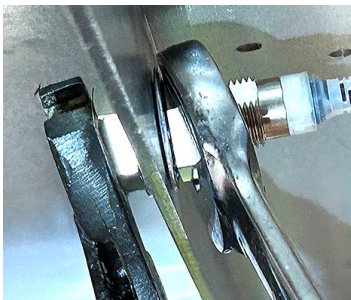

Figure 4
5. Loosen the front and rear nuts of the proximity switch (see Figure 4).